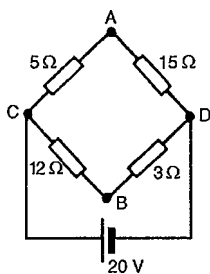

Figure 13.34
- (vii) To find the voltage across AB in Fig. 13.34: Since the 20 V supply is across the $5\ \Omega$ and $15\ \Omega$ resistors in series then, by voltage division, the voltage drop across AC,